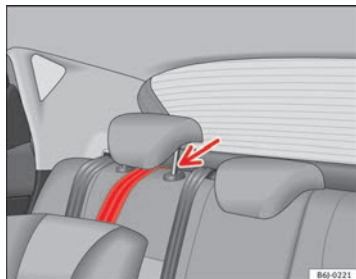

Fig. 28 Retainer strap: correct adjustment and fitting
- Lead the Top Tether fastening belt under the rear seat head restraint ⇒ fig. 28 (lift the head restraint where necessary).